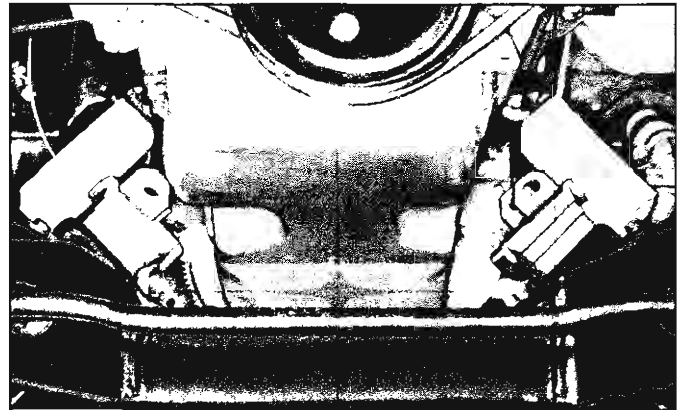

Fig. 9L—Engine Blocked For Pan Removal
12. Using a suitable jack (and a block of wood to prevent damaging oil pan), raise engine enough to insert 2" x 4" wood blocks under engine mounts (fig. 9L), then lower engine onto blocks.